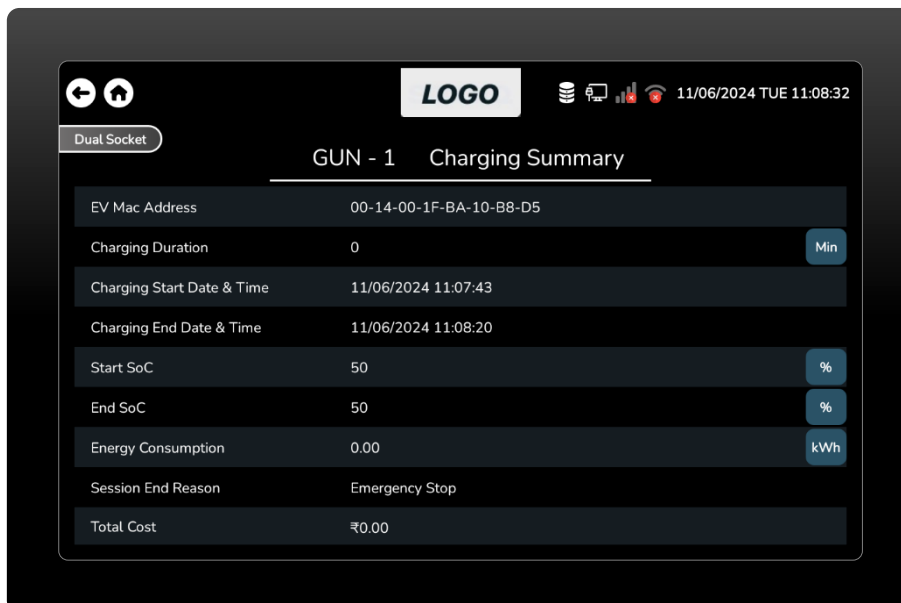

Figure 69 GUN-1 Charging Summary Screen.
- This is a GUN-1 charging summary screen where the user can view charging summary information such as the EV mac address, charging duration, charging start and finish dates and times, start and end SoC, energy consumption, session end reason, and total cost. (Figure 69)